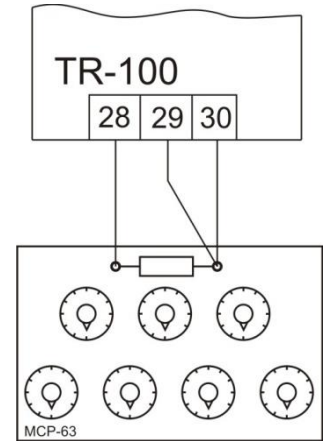

Figure A.1
**A1.2.1** To connect the resistor bank with accuracy rating of at least 0,05 (for example, MCP-63) to product input instead of sensor through three-wire line (Figure A.1). Wire resistances within the line should be equal to each other and each resistances should not exceed value of 15 Ohm. Fix at resistor bank: